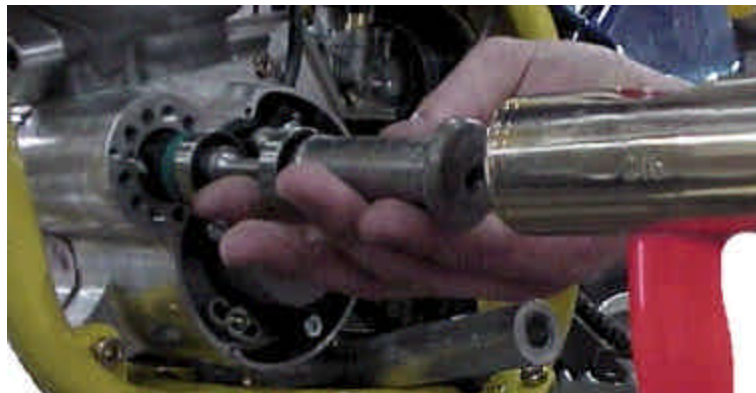

Figure 4
14. Reinstall bearing assembly by using a 0.500" ID by 1.000" OD steel tube 2" long and tap on end of tube per figure 4. Liberally grease outside of seal, bearings and inside of case before installing.